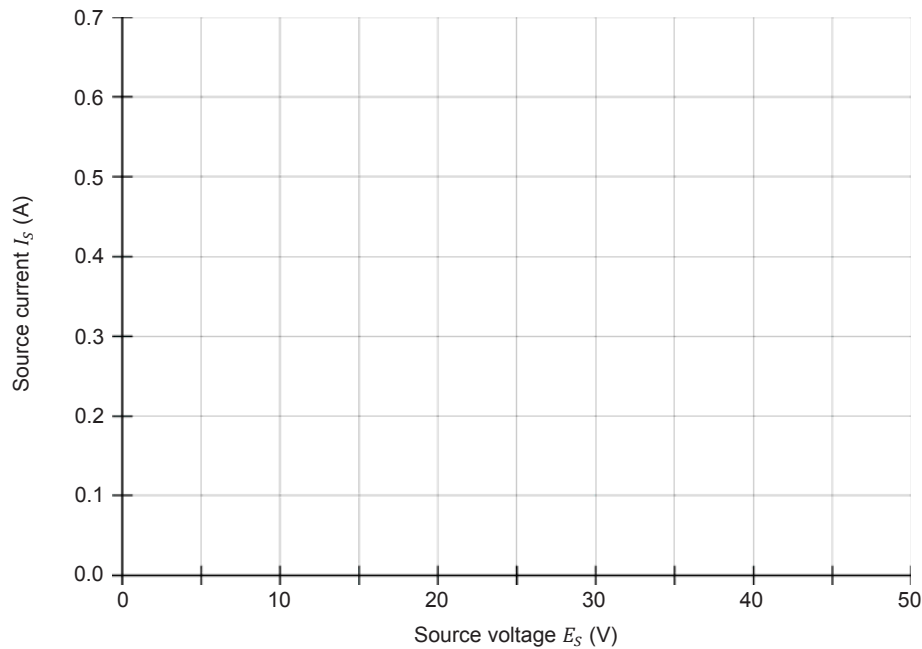

Figure 14. Source current I_S as a function of the source voltage E_S .
8. From the results recorded in Table 1, plot in Figure 14 the source current, I_S , as a function of the source voltage, E_S .